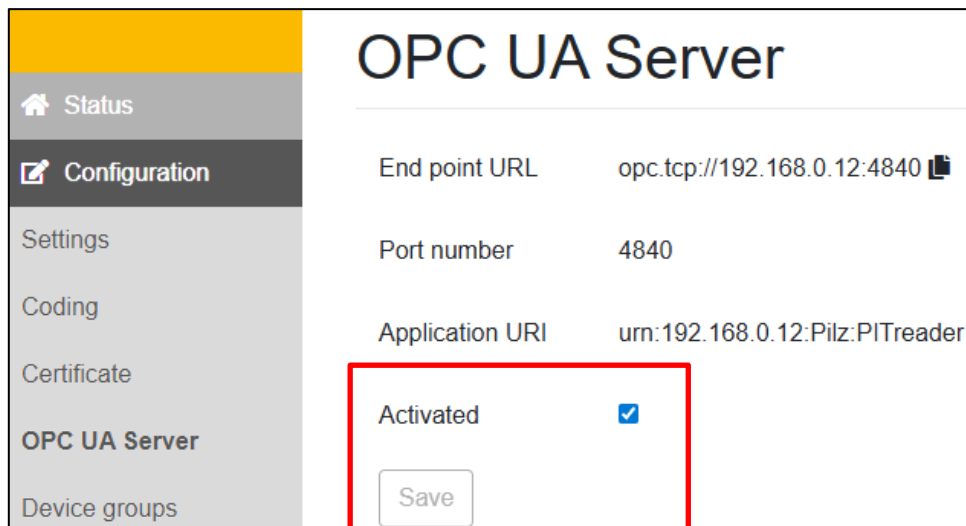
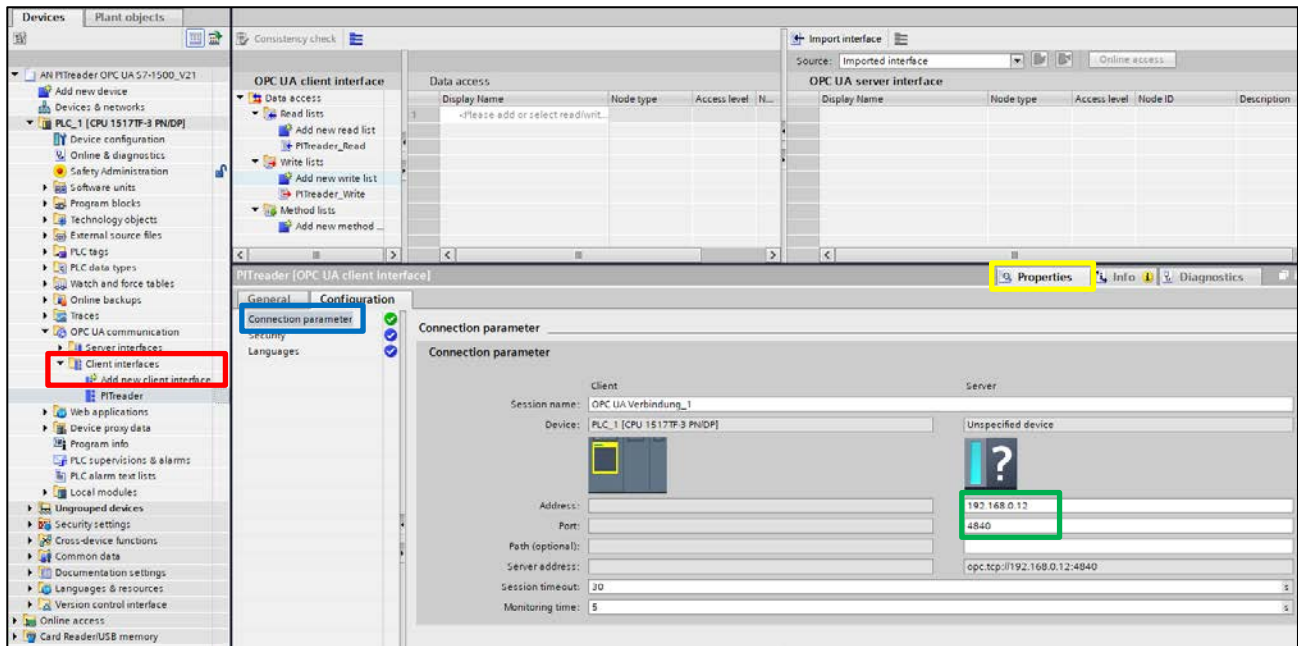

Figure 4: Activating the OPC UA Server
Figure 12: Create and configure OPC UA Client interface (1)
6. Activate the PITreader OPC UA Server by first selecting "Activated" and then clicking on "Save" (Figure 4 red square).
1. In the project navigation, navigate to *Devices -> OPC UA communication -> Client interfaces* and double-click on "Add new Client interface" (Figure 12 red square).
2. Open the newly created Client interface and click on the "Properties" tab (Figure 12 yellow square).
3. Navigate to *Configuration -> Connection parameters* (Figure 12 blue square).
4. Enter the IP address and port number of the OPC UA Server (Figure 12 green square). These can be found in the PITreader's web application (Figure 4).